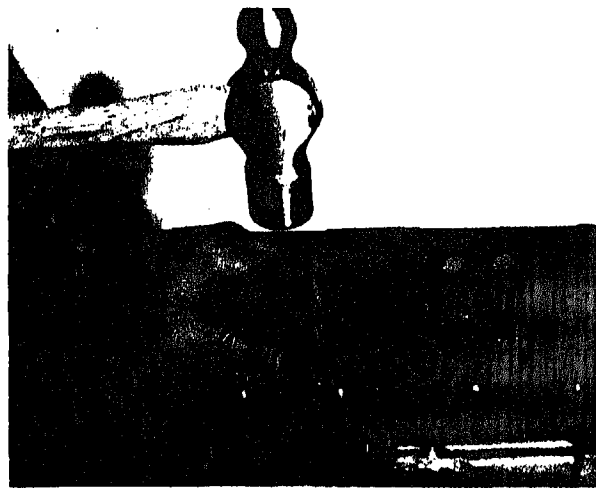

Fig. 2-2-2. Installing injector sleeve
1. Drive in injector sleeve with **injector sleeve driver** **Fig. 2-2-2.**